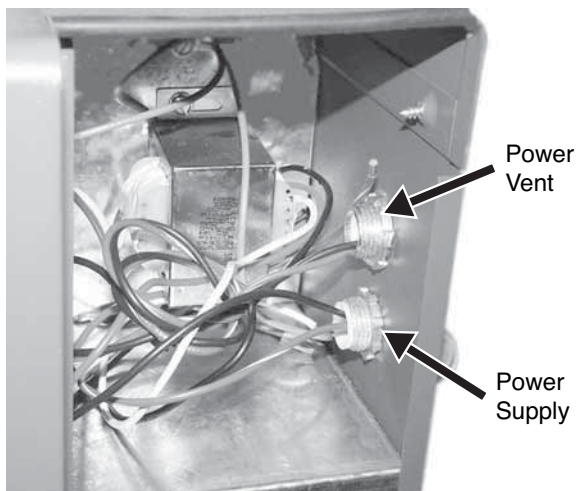

Fig 13
13. Install the right side outdoor conduit through the top 7/8" hole located on the right side of the heater. See Fig. 13. Note: You must first remove the 7/8" plug on the heater to install the hard conduit.